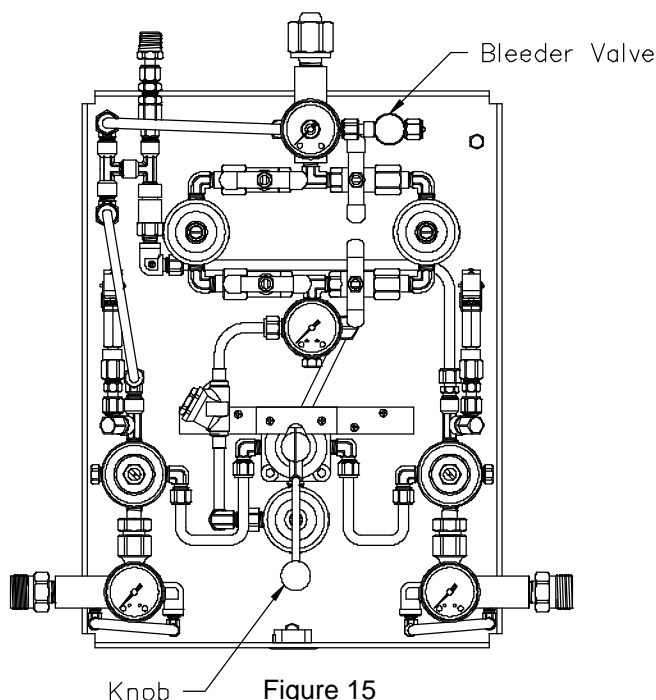

Figure 15
1. Open the cabinet door and attach the knob to the 4-way valve (Figure 15), using the 5/32 allen wrench provided (the manifold is shipped with the valve in the off, straight up position).